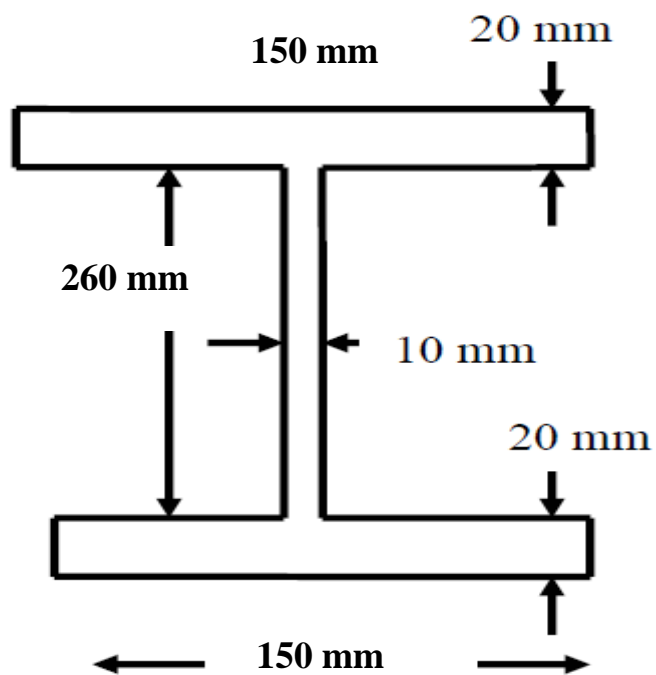

Fig. 9.5
- 9.5 The I section of a beam is subjected to a B.M. of 96 kN-m and a shear force of 32 kN. Find the state of stress at the top of the section, at 50 mm from the N.A. and at the N.A. (Fig 9.5).